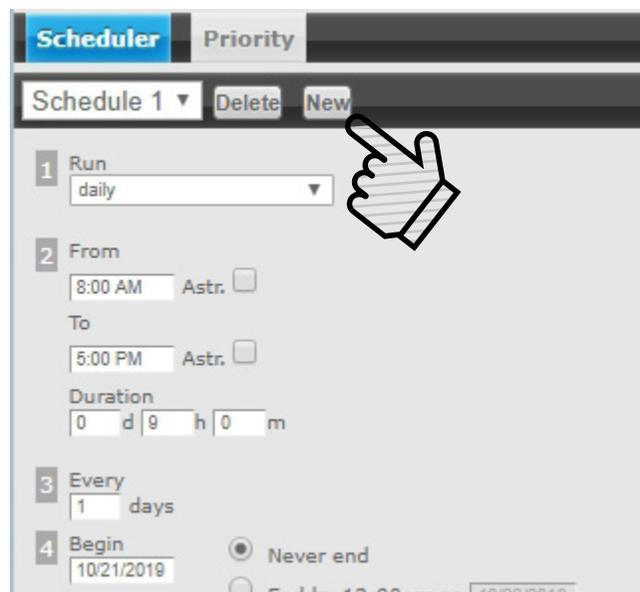

Figure 68: Create Schedule
5. Create a new schedule on the **Scheduler** panel, or select an existing schedule from the drop down menu (Figure 68). The Scheduler allows the following options: